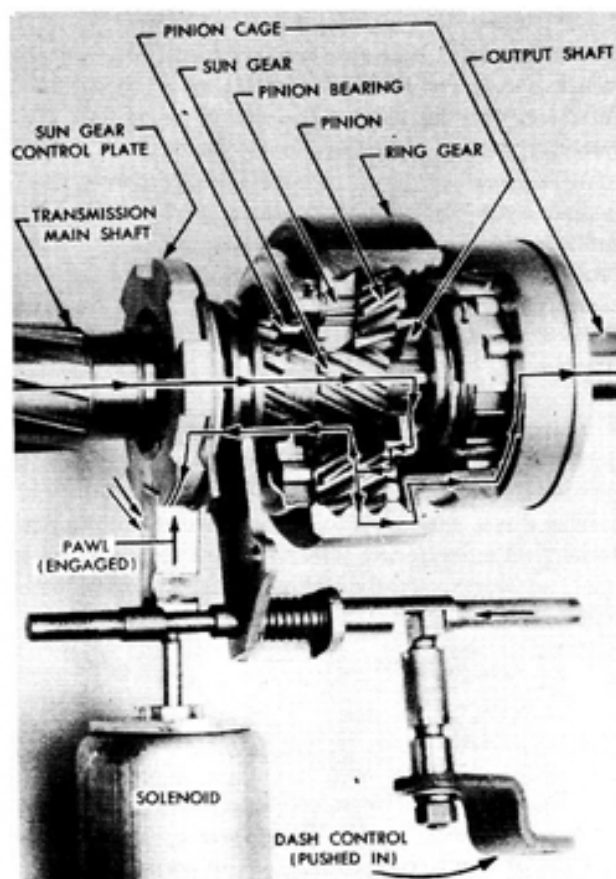
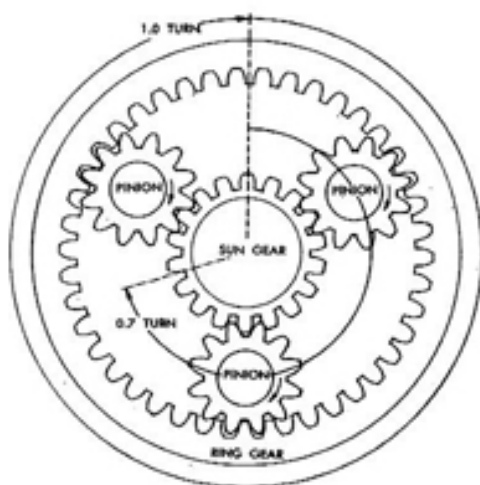

Figure 5.
Figure 6.
a. If the sun gear is held against rotation, (**Fig. 5**), the pinion cage, and hence, the engine, will revolve through only 0.7-turn for each turn of the propeller shaft (**Fig. 6**). The action of the control elements involved is as follows: